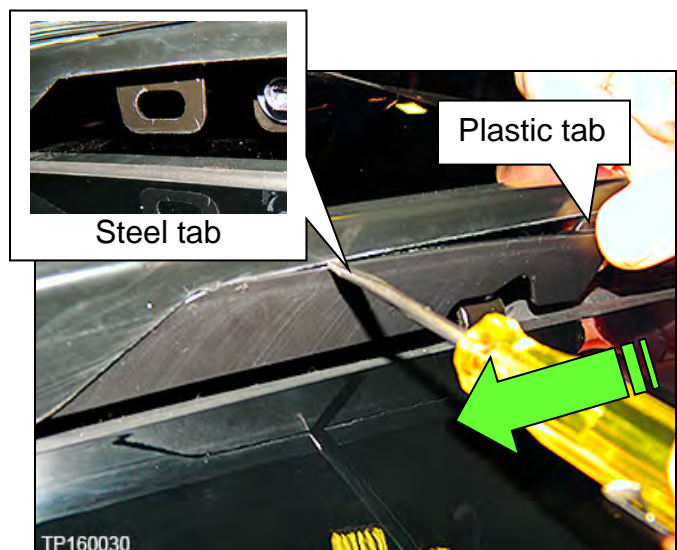

Figure 53
- c. Insert a pocket screwdriver between the moonroof bolt finisher and the moonroof near the plastic tab (Figure 53).
- d. Apply a slight downward force to the plastic tab end of the moonroof bolt finisher until the hole through the steel tab can be seen (Figure 53).
- e. Slide the pocket screwdriver from the plastic tab up to the hole in the steel tab that the moonroof release clip is connected to (Figure 53).